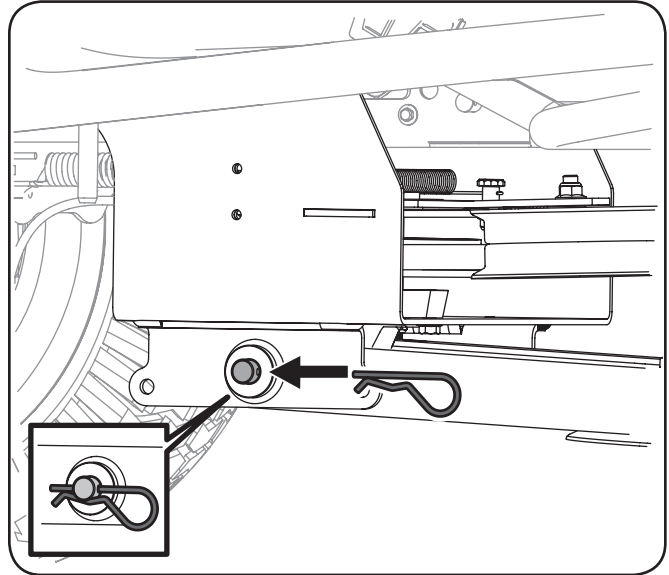

Figure 3-24
2. Pivot the rear of the frame rail assembly upward and secure it to the inside of the carriage assembly with the clevis pins and hairpin clips removed earlier. See Figure 3-24.